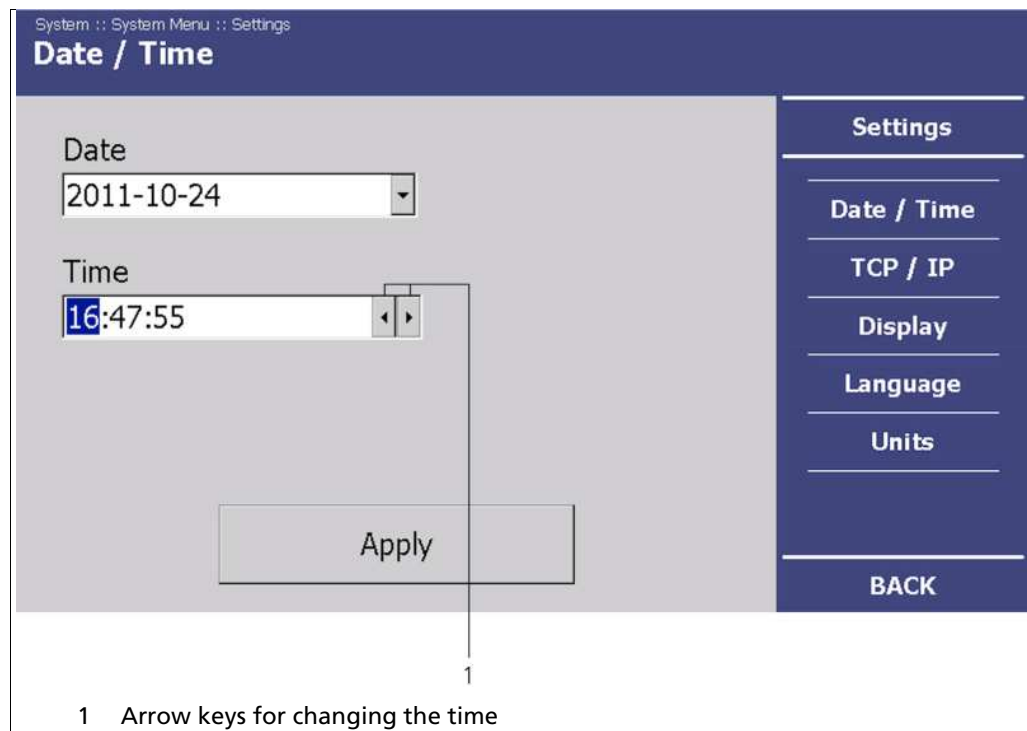

Fig. 26 System menu, Settings - Setting the Time
1. In the "Time" display field, click on (Fig. 26, Pos. 1) the time unit (hours, minutes, seconds), which you want to change.
2. Change the time by clicking on the arrow keys (Fig. 26, Pos. 1).